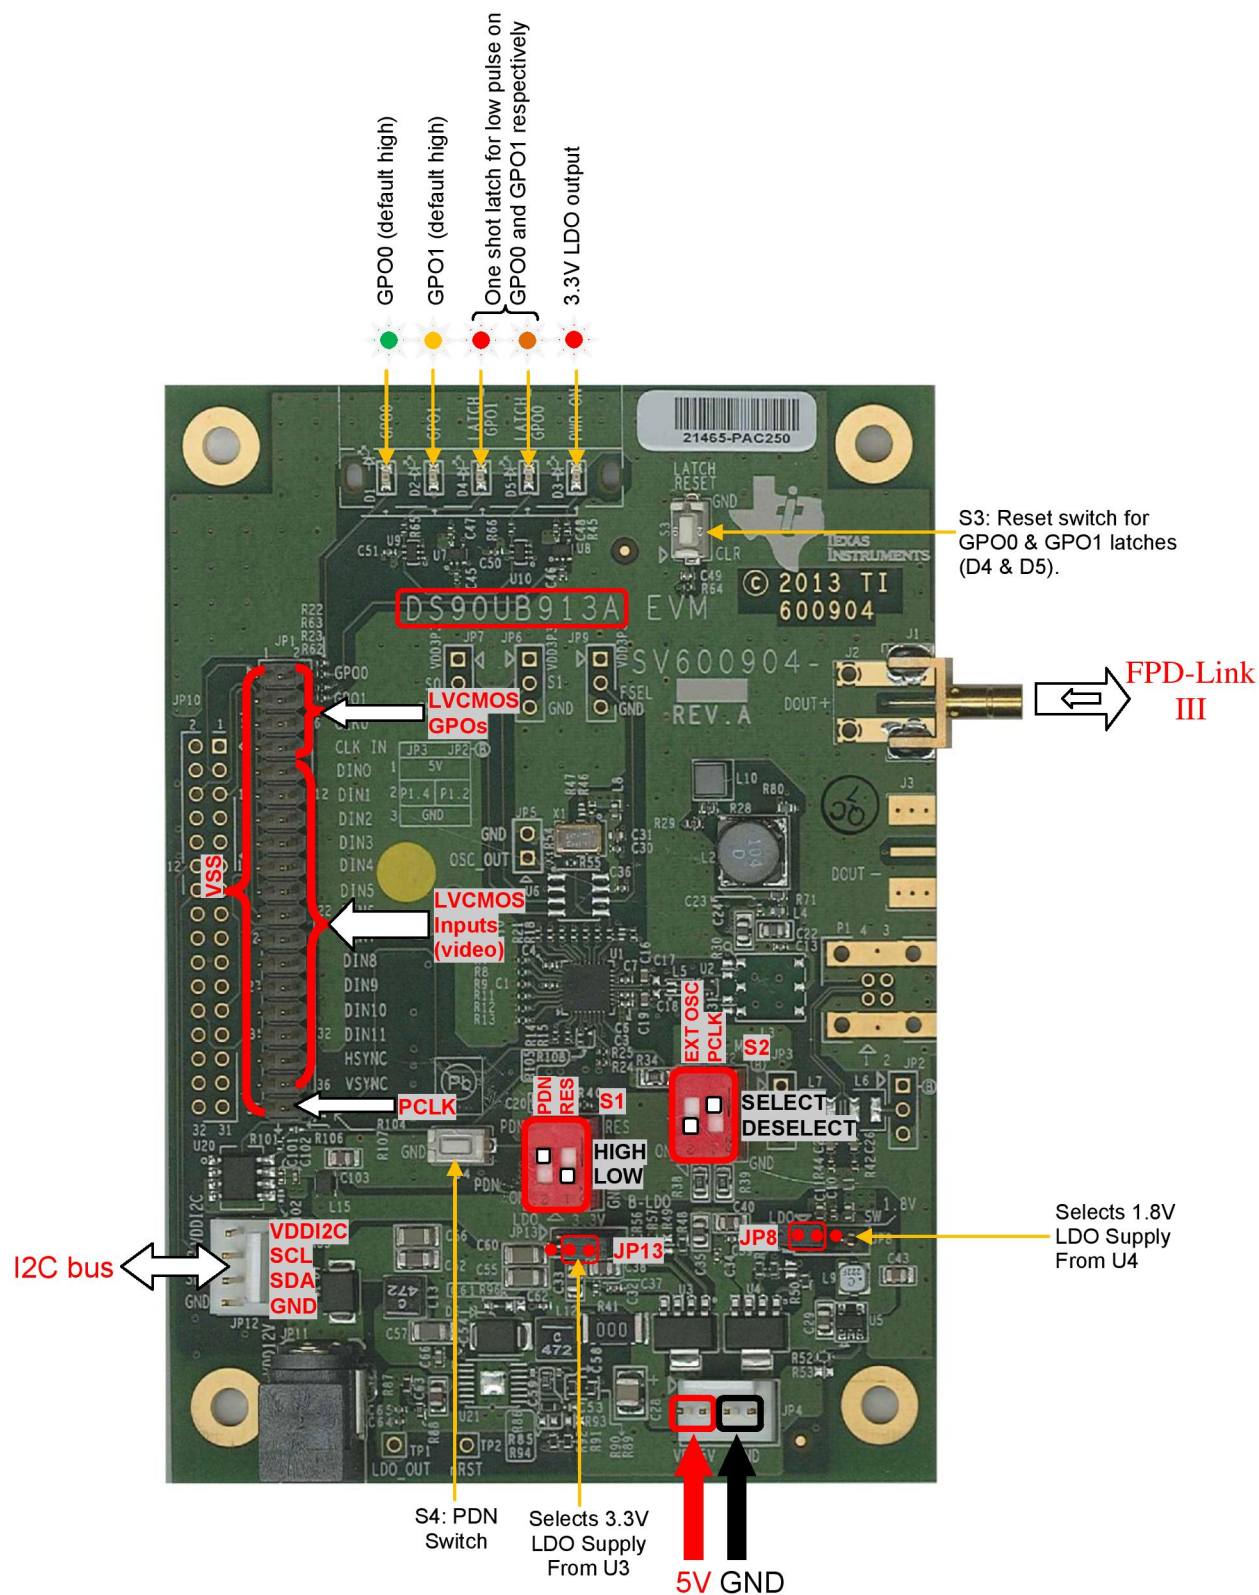
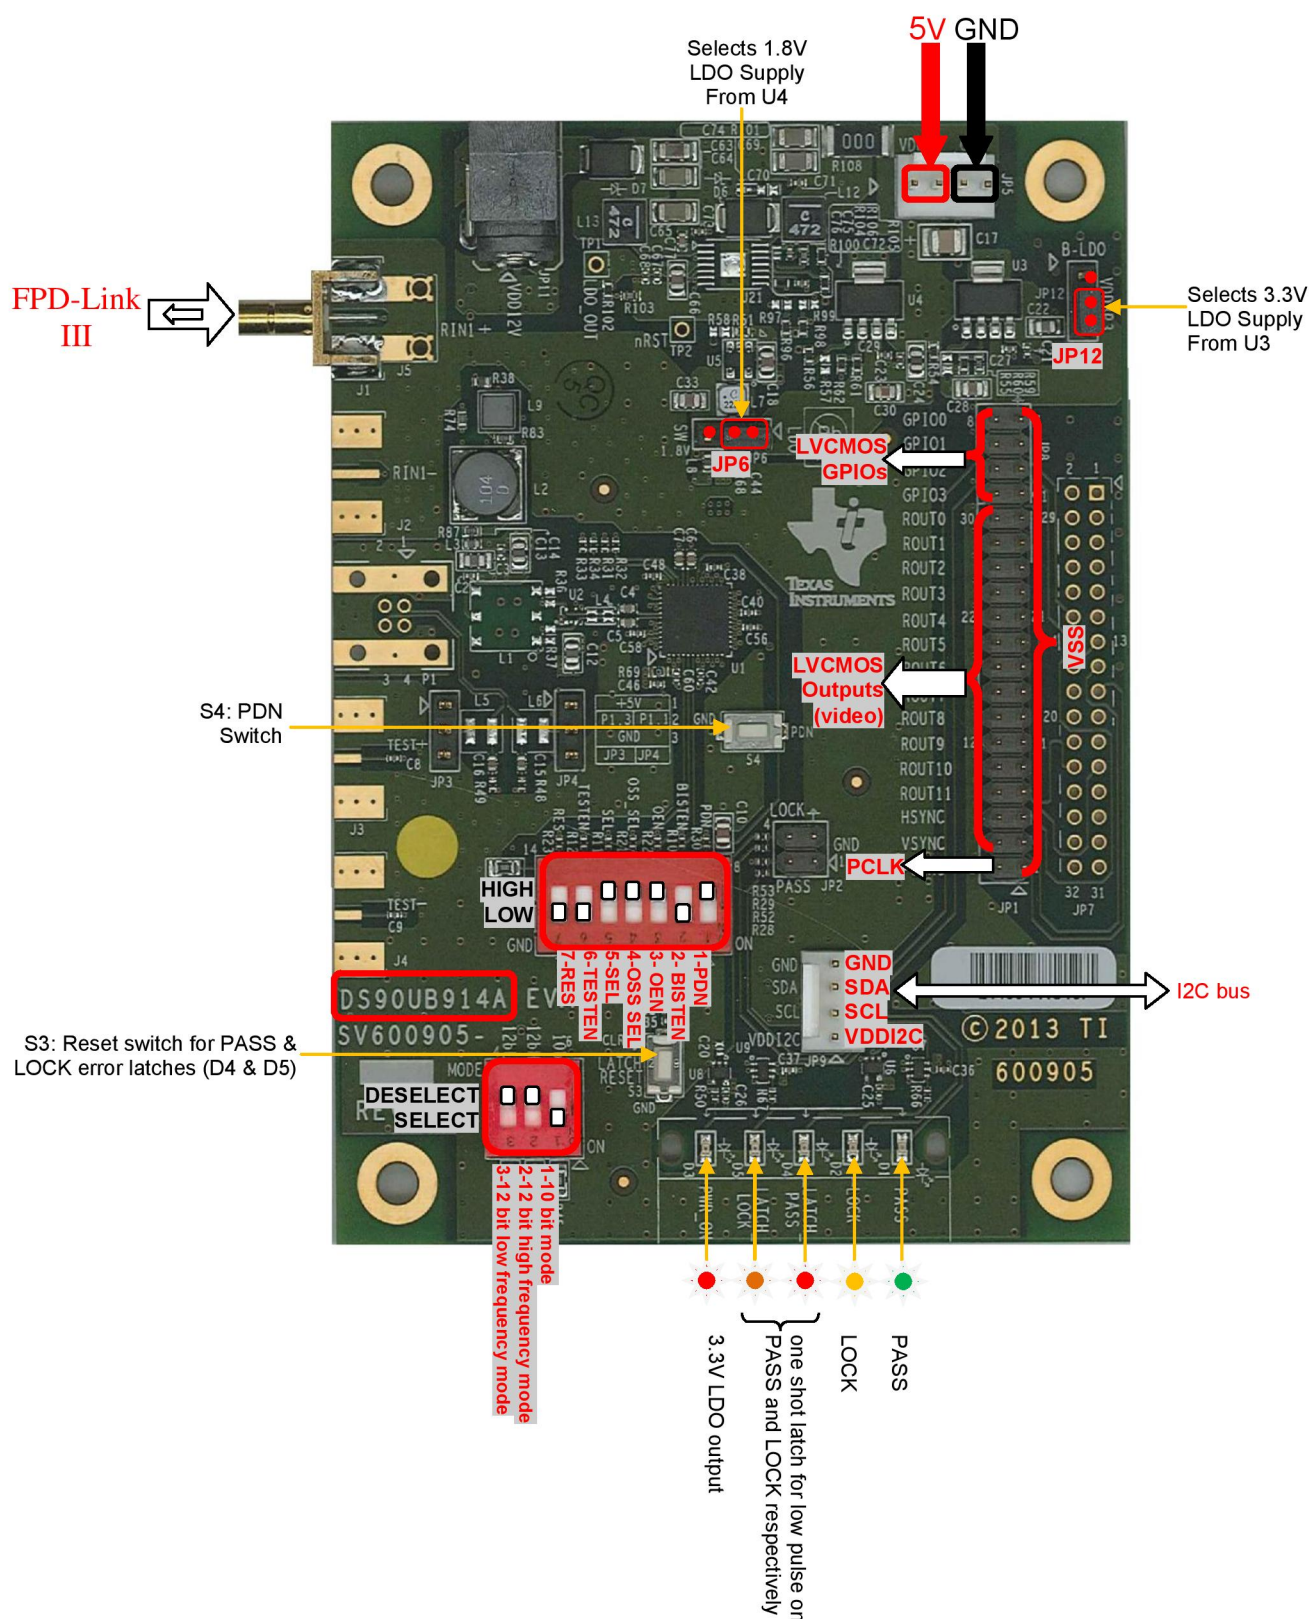

Figure 1-2. DS90UB913A-CXEVM REV A Serializer Board (Default Settings)
Figure 1-3. DS90UB914A-CXEVM REV A Deserializer Board (Default Settings)
Make sure S1, S2, JP8, JP13 of Serializer board and S1, S2, JP6, JP12 of Deserializer board are configured as shown in Figure 1-2 and Figure 1-3.
6. Go back to Figure 1-2 & Figure 1-3 to double check factory settings.
S1, S2, JP8 and JP13 of Serializer board are factory configured as shown in Figure 1-2 for plug and play operation.
5. On JP8 and JP13, a 2-pin jumper is factory placed as shown in Figure 1-2. This selects power from U4 for 1.8V VDD and from U3 for 3.3V VDDIO respectively.
S1, S2, JP6, JP12 of Deserializer board are factory configured as shown in Figure 1-3 for plug and play operation.
- On JP6 and JP12, a 2-pin jumper is factory placed as shown in Figure 1-3. This selects power from U4 and U3 LDOs for 1.8V VDD and 3.3V VDDIO respectively.